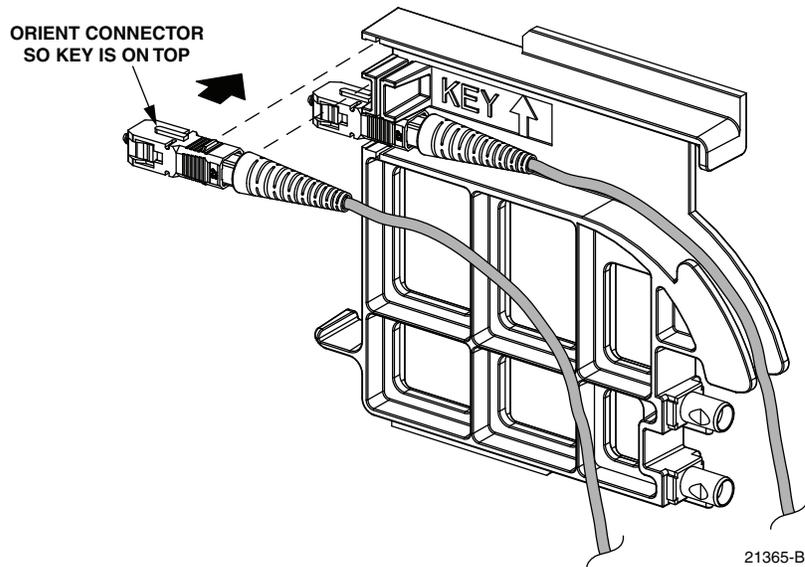

Figure 16. Installing Patch Cord Connector in Dust Cap Assembly
8. Install the patch cord connector in the dust cap assembly as shown in Figure 16.